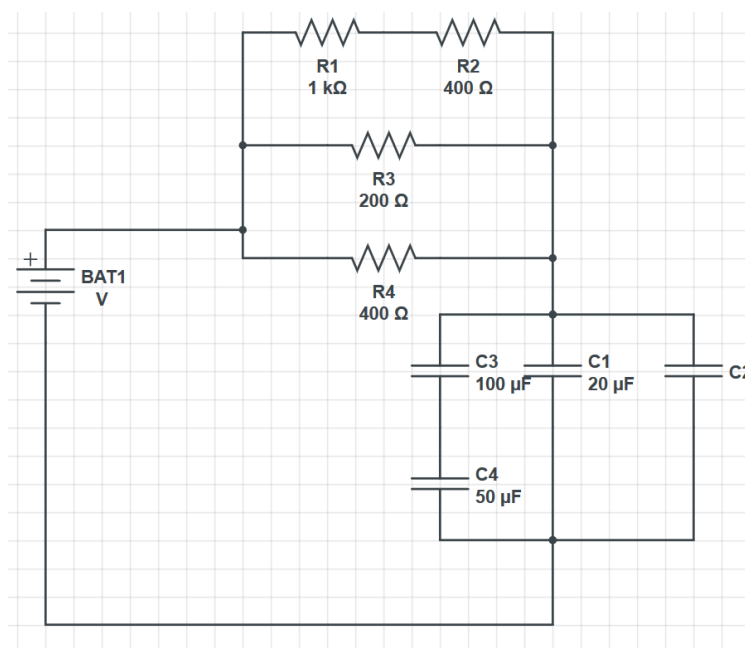

Figure 2.7: Time constant practice.
14. Answer the following in the results section of your log book. Your draft calculations can be shown in the “General Notes” section of the log book. Given Fig. 2.7, what must be the value of C2 such that the time constant is approximately $\tau = 12.5\text{ms}$. If one replaces C2 by two capacitors in series, one of which has $C5 = 250\mu\text{F}$. What must be the capacitance of the second capacitor to preserve the same time constant?